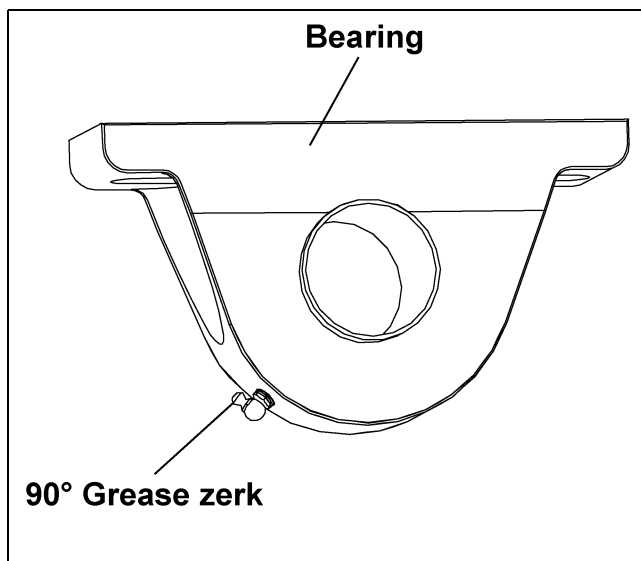

Figure 5I
- B. Replace standard grease zerks with 90° grease zerks on both bearings. Make sure the 90° grease zerk is turned as shown in Figure 5I, so the zerks are accessible from the center of the tractor drive stand.